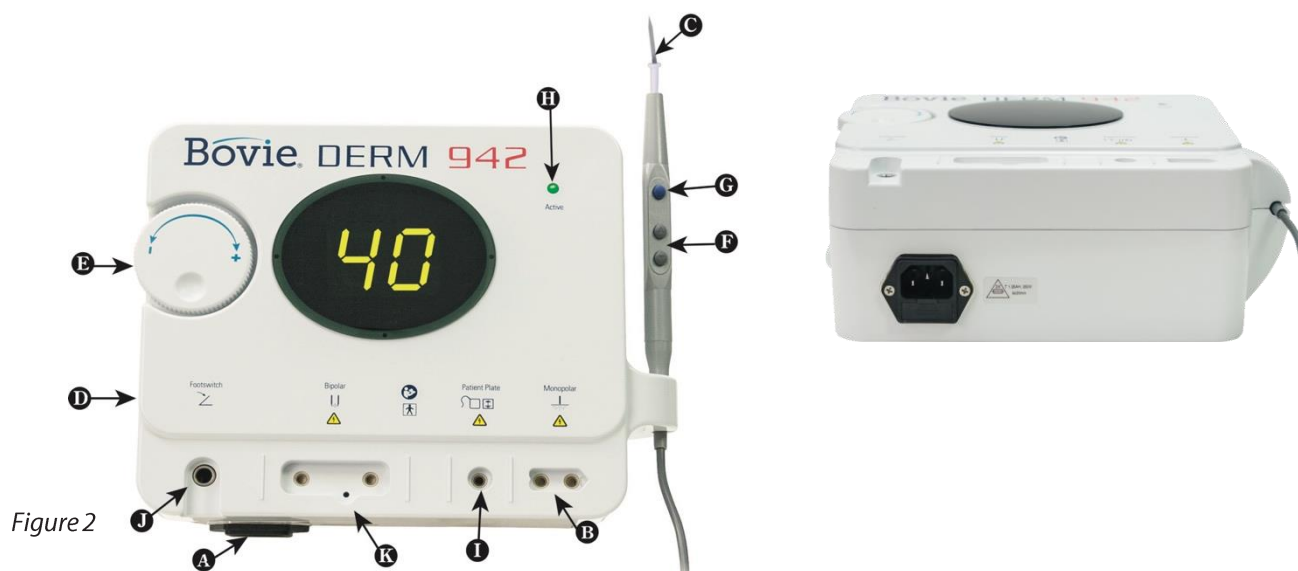

Figure 2
2. Plug the female end of the power cord into the base of the unit (see figures 2 and 3, letter A).
4. The monopolar output for the handpiece is on the lower right front of the unit (see figures 2 and 3, letter B). The handpiece plug is designed to fit in only one direction. Plug the connector from the handpiece into the receptacle on the bottom of the unit (see figures 2 and 3, letter B). The three button handpiece is designed to give the doctor complete fingertip control of the power output settings.
5. Slide the standard electrode into the handpiece until it is firmly seated (see figures 2 and 3, letter C). The handpiece will accept most standard $\frac{3}{32}$ " electrodes.
7. Turn the unit power on utilizing the switch on the left side panel of the unit (see figures 2 and 3, letter D).
8. Set the power output either by using the dial on the front of the unit (see figures 2 and 3, letter E) or the up and down buttons on the handpiece (see figures 2 and 3, letter F). When power level adjustment is being made by the handpiece an audible tone will sound to indicate that the power level has been changed. Depressing and holding the up or down buttons will cause the power settings to change more rapidly for quick adjustment of the output settings. Power output is displayed in ".1" watt increments from 0.1 to 10 watts.
9. To activate the unit, remove the handpiece from the holder. Place the handpiece in the desired position and depress the activation button (see figures 2 and 3, letter G). When the unit is activated, an audible tone is sounded and the blue active light will illuminate (see figures 2 and 3, letter H).
figures 2 and 3, letter I) and connect the other end into the grounding plate. The plate should be placed underneath the patient at a point where the entire plate is covered by bare skin. The use of conductive gel is recommended.
11. To use the optional bipolar cord (A827V), insert the plugs into the bipolar outputs (see figure 2, letter K). The cord is then plugged into the forceps. Only one monopolar or one bipolar accessory can be plugged in to the outputs preventing the user from using both accessories simultaneously.
12. The optional footswitch (A803) is plugged into the footswitch output and placed on the floor (see figures 2 and 3, letter J). The footswitch can be used with monopolar procedures and must be used with bipolar procedures.